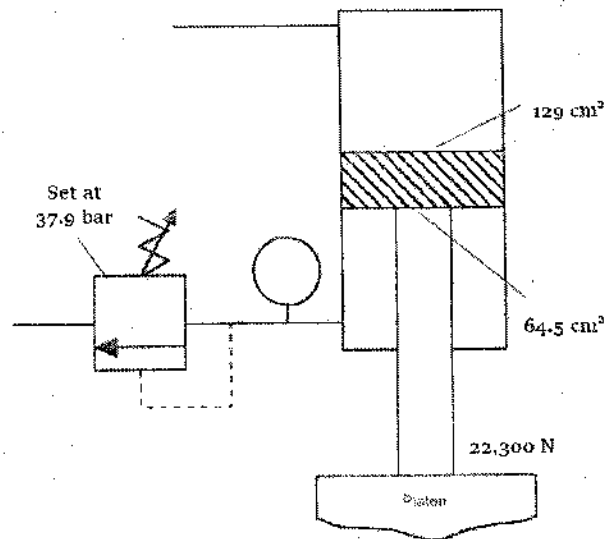

Fig. 1
- C. From the given diagram (Fig. 1).
- Complete** the hydraulic circuit and name its components. **what** is the function of the pressure control valve shown in Fig. 1?